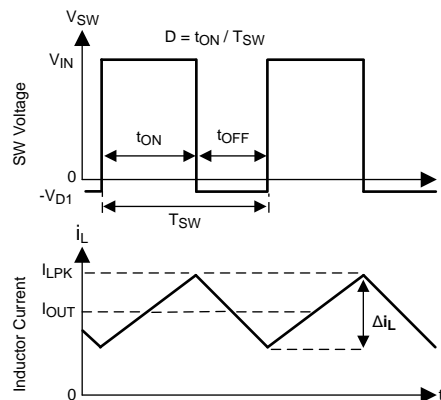

Figure 33. SW Node and Inductor Current Waveforms in Continuous Conduction Mode (CCM)
The following operating description of the LM46002 refer to the Functional Block Diagram and to the waveforms in Figure 33. The LM46002 is a step-down buck regulator with both high-side (HS) switch and low-side (LS) switch (synchronous rectifier) integrated. The LM46002 supplies a regulated output voltage by turning on the HS and LS NMOS switches with controlled ON-time. During the HS switch ON-time, the SW pin voltage V_{SW} swings up to approximately V_{IN} , and the inductor current I_L increases with a linear slope $(V_{IN} - V_{OUT}) / L$. When the HS switch is turned off by the control logic, the LS switch is turned on after a anti-shoot-through dead time. Inductor current discharges through the LS switch with a slope of $-V_{OUT} / L$. The control parameter of buck converters are defined as duty cycle $D = t_{ON} / T_{SW}$, where t_{ON} is the HS switch ON-time and T_{SW} is the switching period. The regulator control loop maintains a constant output voltage by adjusting the duty cycle D . In an ideal buck converter, where losses are ignored, D is proportional to the output voltage and inversely proportional to the input voltage: $D = V_{OUT} / V_{IN}$.